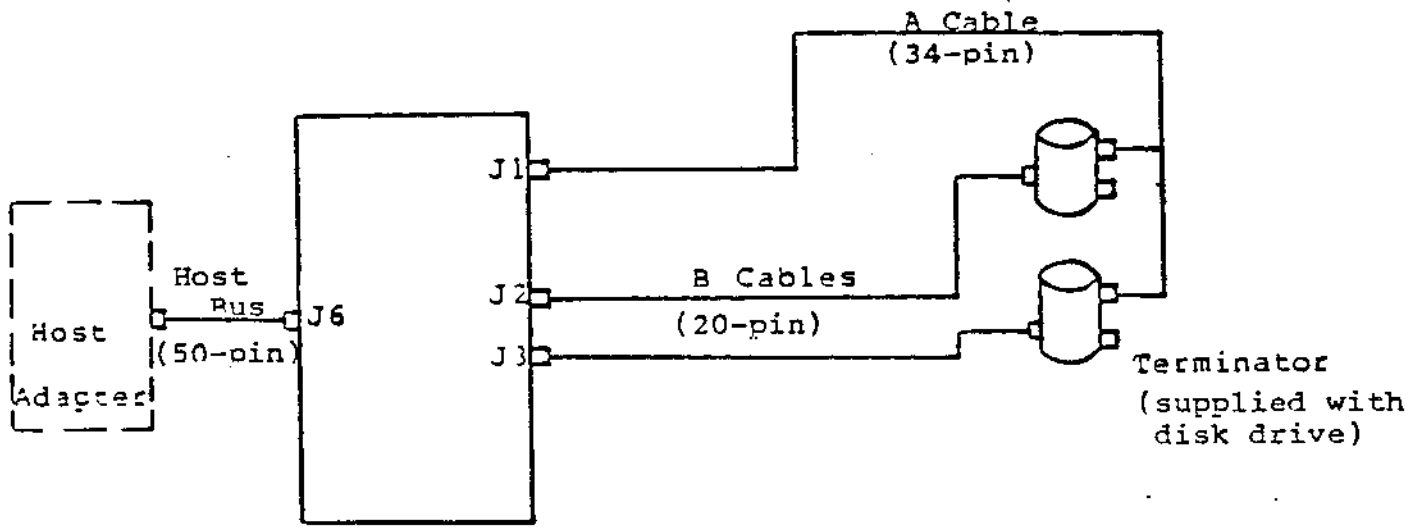

Figure 2.1
The controller and data separator comprise a single PCB. A maximum of two (2) drives may be connected as shown in Fig. 2.1.